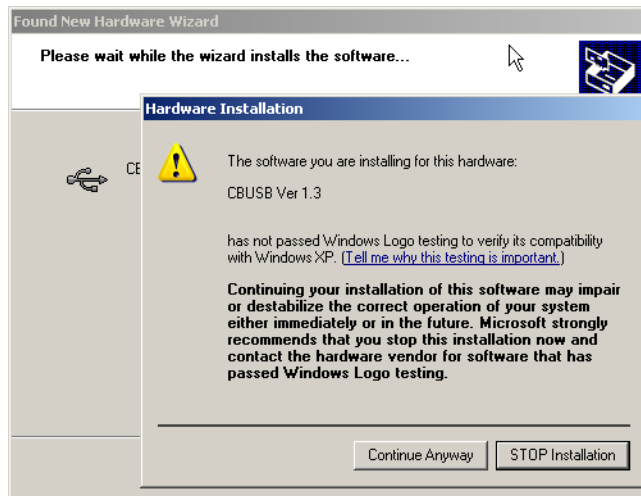

Figure 2-22 Hardware Installation
18. On the Hardware Installation notice shown in figure 2-22, click the **Continue Anyway** button to continue.